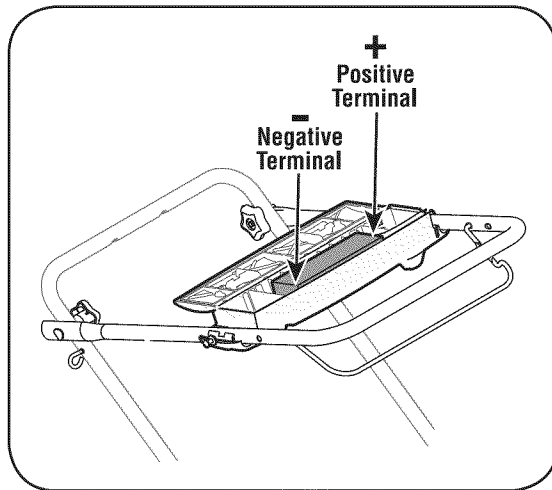

Figure 9
**NOTE:** The battery you have may differ slightly from the one shown in Figure 9. Refer to the Parts List on pages 16-17.
**IMPORTANT:** When replacing battery pack in handle panel, battery pack must be positioned with the positive terminal to the left side and the negative terminal to the right side of panel (Positive terminal is closest to the key switch). See Figure 9. Replacing battery pack incorrectly will cause **serious damage**.